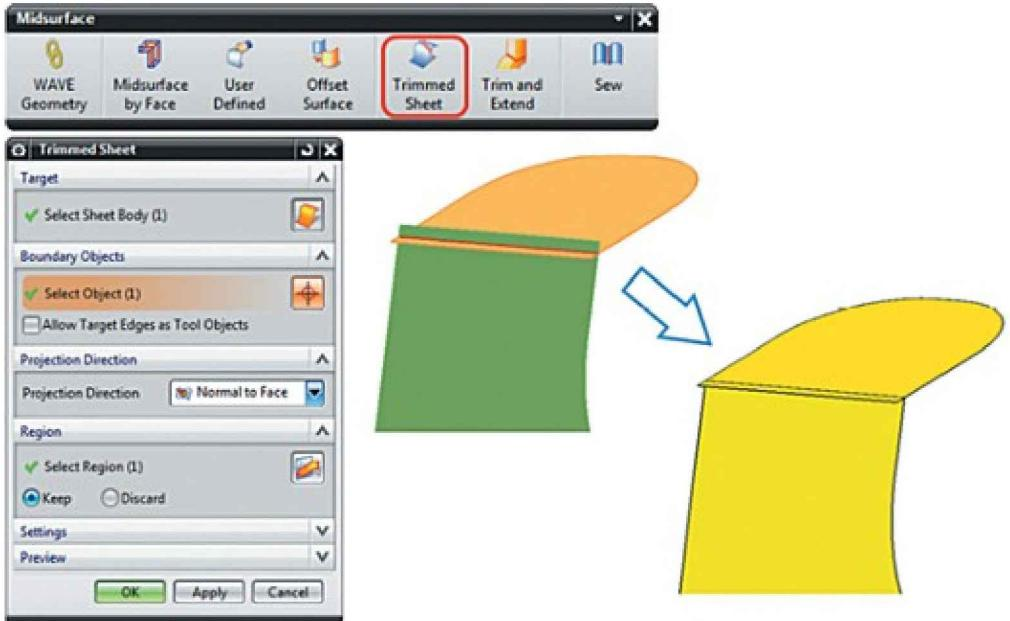

Figure 2.30. Trimmed Sheet command
6. Click **Trimmed Sheet** on the **Midsurface** toolbar. In the **Trimmed Sheet** dialog box (Figure 2.30), do the following: